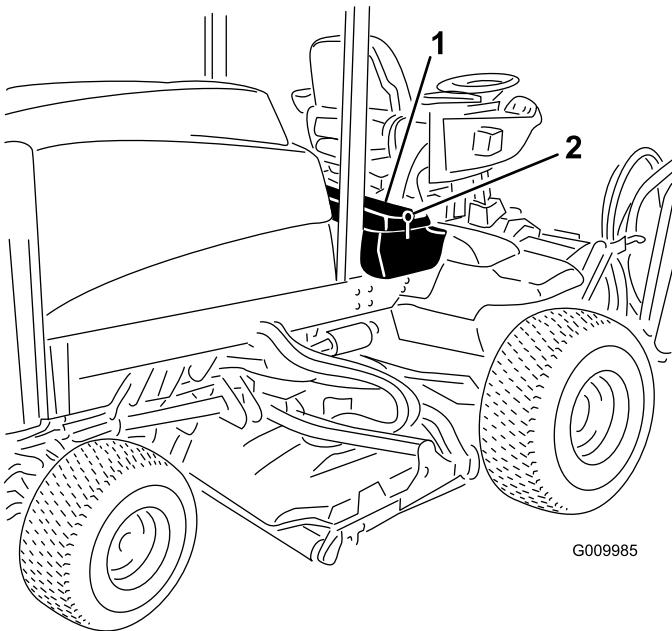
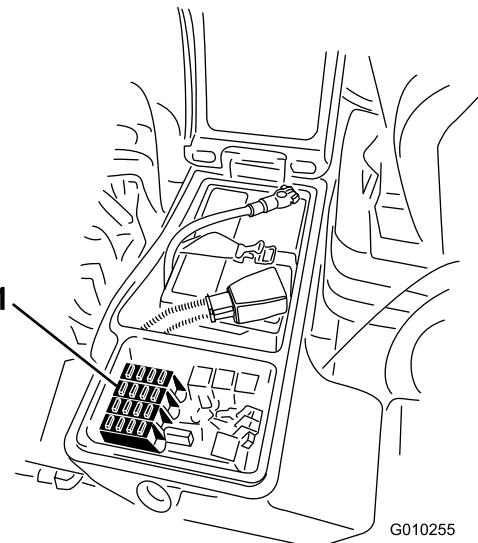

Figure 54
Figure 55
2. Replace the open fuse(s) as needed (Figure 55).
3. Close the cover of the right storage box and secure the cover with the latch (Figure 54).
1. Loosen the latch for the cover of the right storage box and raise the cover (Figure 54) to expose the fuse block (Figure 55).